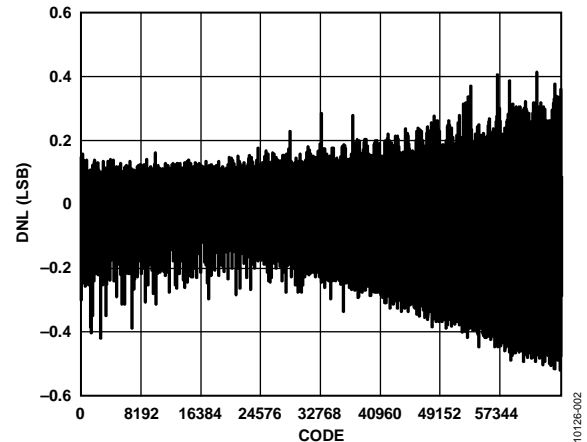
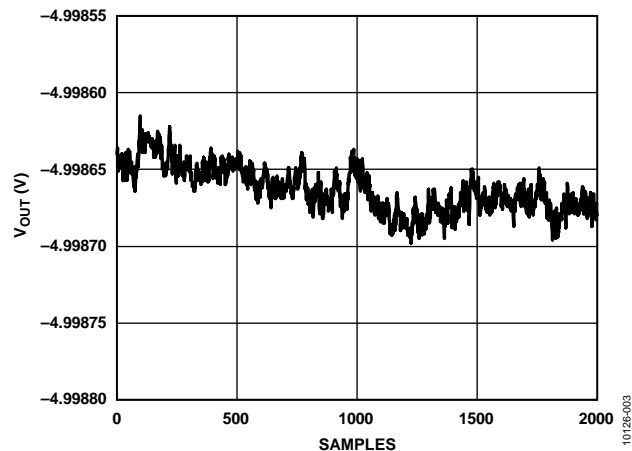
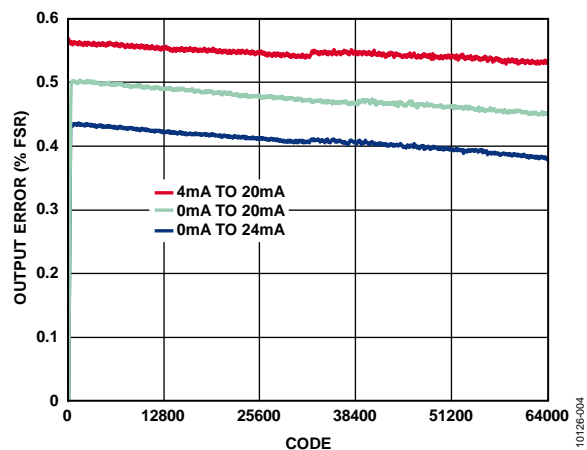
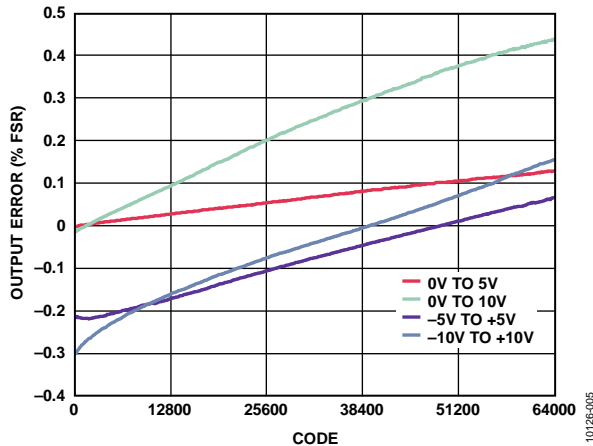

Figure 2. Measured DNL of Circuit for ± 10 V Output Range
Figure 3. Measured Average DAC Output Noise with DAC Output Set at -5 V on ± 10 V Output Range, Vertical Scale: 50 μ V/div (1 LSB = 305 μ V), 2000 Samples
Figure 4. Measured Error (% FSR) For Current Output Ranges
Figure 5. Measured Error (% FSR) for Voltage Output Ranges
The AD5422 differential nonlinearity (DNL) was tested to ensure no loss in system accuracy was incurred because of the switching supplies. Figure 2 shows the DNL for a ± 10 V range. The result shows less than 0.5 LSB DNL error.
The average output noise was also tested and measured over time, as shown in Figure 3. The total drift is approximately 75 μ V, corresponding to only 0.25 LSB.
Actual error data from the circuit is shown in Figure 4 and Figure 5. The total error in the output current and voltage (% FSR) is calculated by taking the difference between the ideal output and the measured output, dividing by the FSR, and multiplying the result by 100. An error of less than 0.5% FSR error is achieved in both the current and voltage output modes as shown in Figure 4 and Figure 5, respectively.
- Changes to Circuit Description Section and Figure 2; Added Test Data and Results Section and Figure 4, Renumbered Sequentially; Replaced Figure 3 2